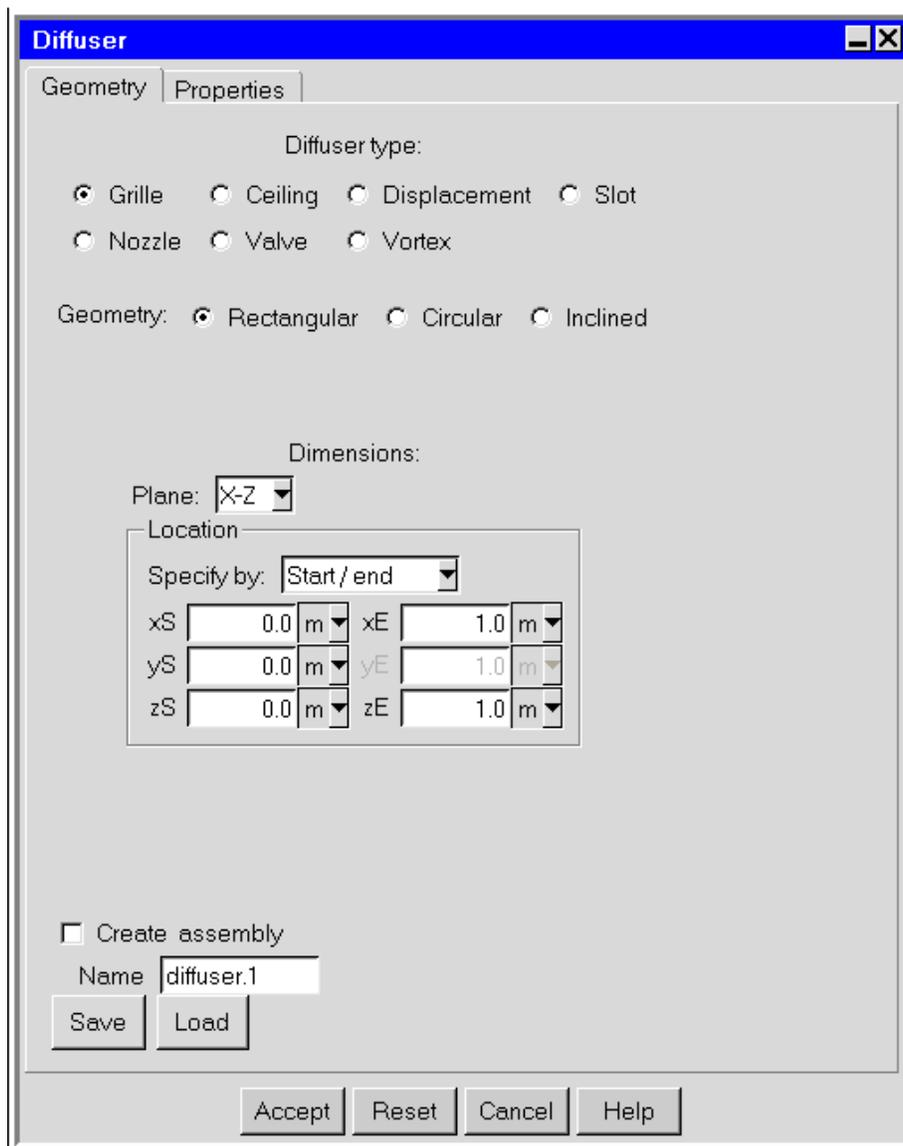

Figure 25.2.2: The Grille Diffuser Panel (Geometry Tab)
To include a diffuser in your *Airpak* model, select **Boundary conditions** and then **Diffuser** in the **Macros** menu. This will open the Diffuser panel, shown for the different types of diffusers in Figures 25.2.2–25.2.14.
1. Specify the Diffuser type by selecting Grille, Ceiling, Displacement, Slot, Nozzle, Valve, or Vortex. The panel will change (as shown in Figures 25.2.2–25.2.14) depending on your selection of Diffuser type. Note that each Diffuser type panel has two tabs: Geometry and Properties.
The geometry types that are available will depend on which type of diffuser you are using. See Figures 25.2.2–25.2.14 and below for details. The inputs for the standard Airpak geometries are described in Section 7.4.4. See Section 7.3.6 for details on resizing an object and Section 7.3.7 for details on repositioning an object. one